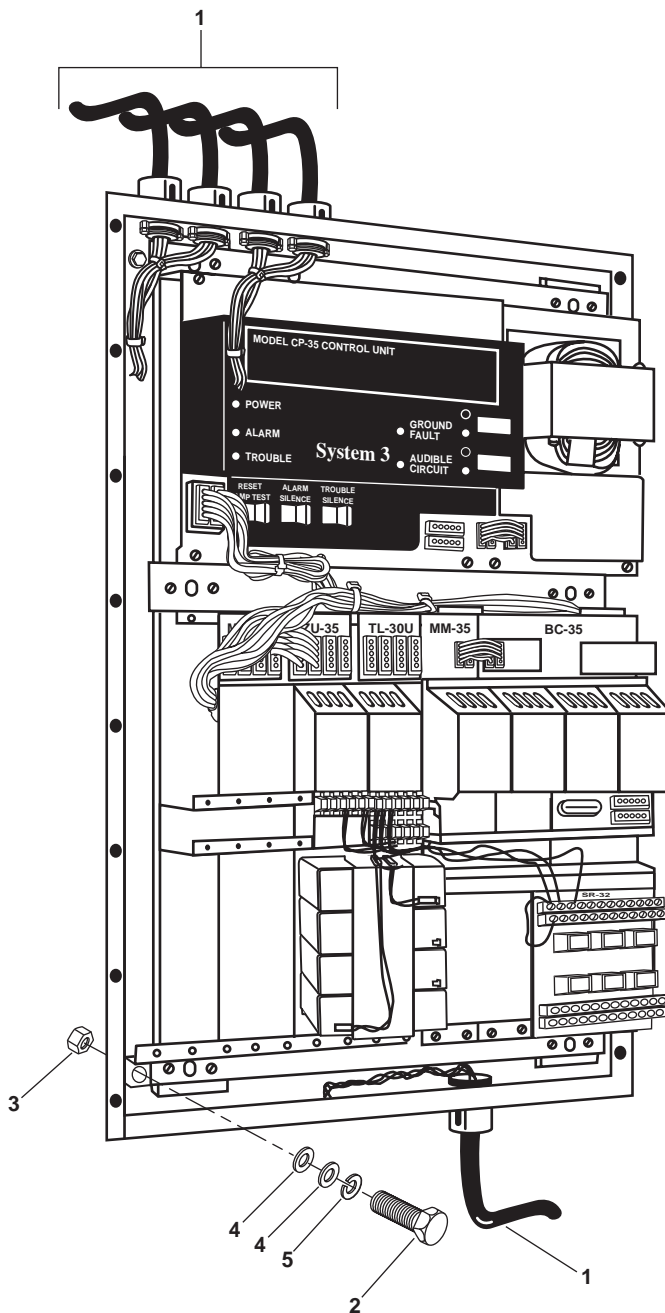

Figure 2. Fire and Smoke Detection Panel
5. Label and remove all remaining electrical wiring (figure 2, item 1) from the enclosure.
6. Remove the six bolts (figure 2, item 2), six nuts (figure 2, item 3), 12 flat washers (figure 2, item 4), and six lockwashers (figure 2, item 5). Discard the lockwashers.
1. Position the fire and smoke detection panel on the main switchboard and secure it in place with the six bolts (figure 2, item 2), six nuts (figure 2, item 3), 12 flat washers (figure 2, item 4), and six new lockwashers (figure 2, item 5).
2. Route and install the electrical wiring (figure 2, item 1) in the fire and smoke detection panel using the labels from step 1 of Removal as a guide. Remove the labels.